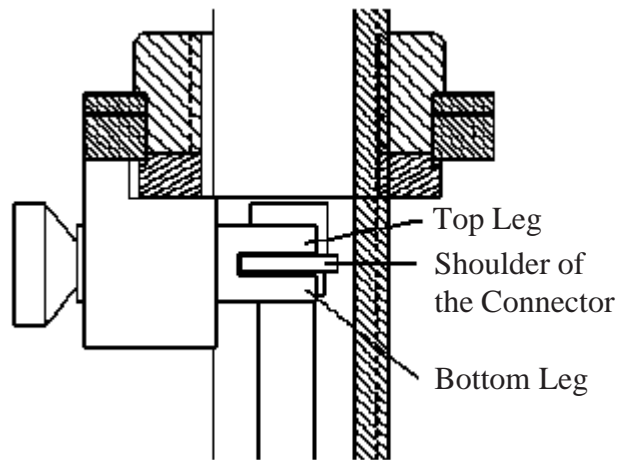

Figure 3. Insert Slide (Engaged Position)
7. Push in the INSERT SLIDE to the ENGAGED POSITION, so that the TOP LEG rests on the SHOULDER OF THE CONNECTOR. (See **Figure 3**.)
2. Move the INSERT SLIDE to the ENGAGED POSITION so that the SHOULDER of the PROBE CONNECTOR is held by the INSERT SLIDE. (See **Figure 3**.)